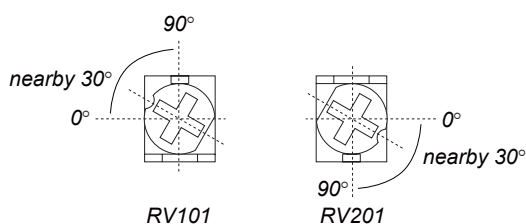

Fig. 8. Adjusted position (reference)
5. Adjust RV101 so that the level of connected capacitor to TP103 is –14 dBv $\pm$ 0.3 dB. (Refer to Fig. 8)
12. Adjust RV201 so that the level of connected capacitor to TP203 is –14 dBv $\pm$ 0.3 dB. (Refer to Fig. 8)